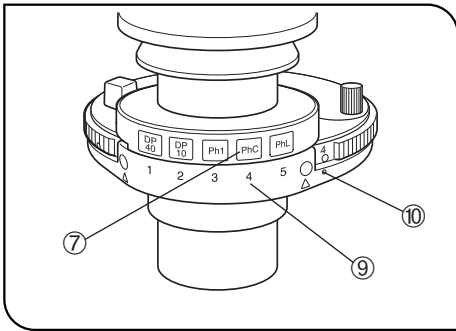

Fig. 49
6. Place the index ⑦ provided with each optical element in the index insertion hole having the same number ⑧ as the number of the position ⑧ in which the corresponding optical element is mounted. (Figs. 49 & 50)
Ⓞ The optical element with the number indicated by marking • ⑩ is engaged in the light path. (Fig. 49)